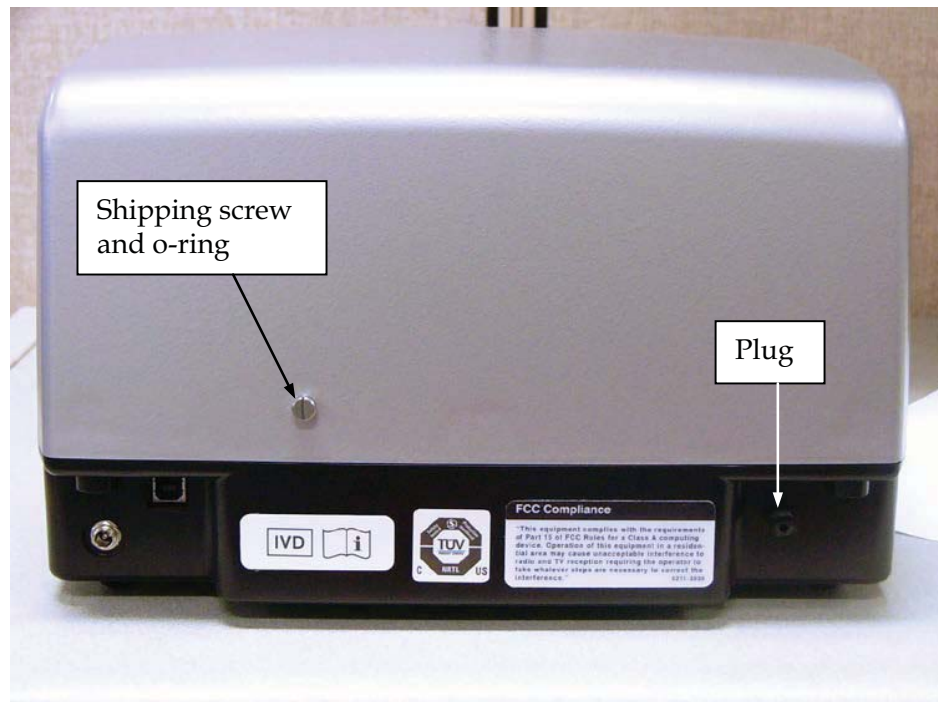

Figure 1: Shipping screw, o-ring, and plug in shipping position
Remove and store all shipping hardware before you turn on the reader. See **Figure 1**.
4. Insert the plug in its original hole and use the screwdriver to re-install the shipping screw and o-ring in its original position (see **Figure 1**).